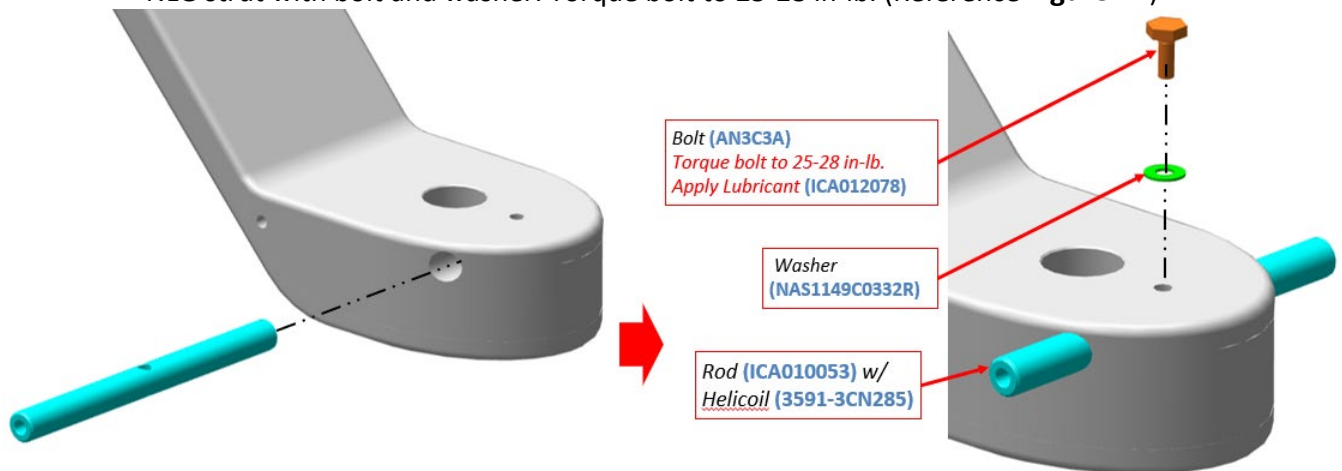

Figure 17. NLG Strut Hardware
- i. Install rod into NLG strut: Using isopropyl alcohol, clean surfaces where lubricant will be applied. Apply lubricant (ICA012078) liberally to threads and shank of bolt. Install rod into NLG strut with bolt and washer. Torque bolt to 25-28 in-lb. (Reference **Figure 17**)